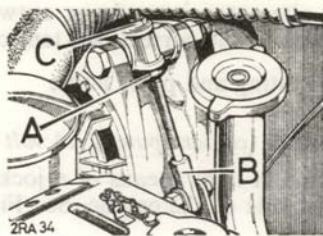

Fig. 42 Generator belt adjustment, 24 volt models
- (3) *Generator belt adjustment, 24 volt models*
- Generator belt adjustment is by means of an adjustment strut at the top of the generator. See Fig. 42.